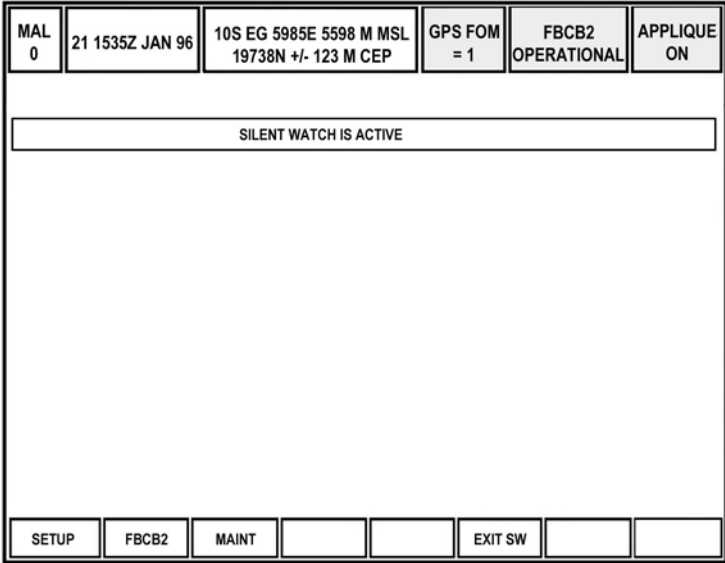

Figure 18. Exit SILENT WATCH.
- (5) To exit silent watch mode, press EXIT SW softkey (Figure 18).